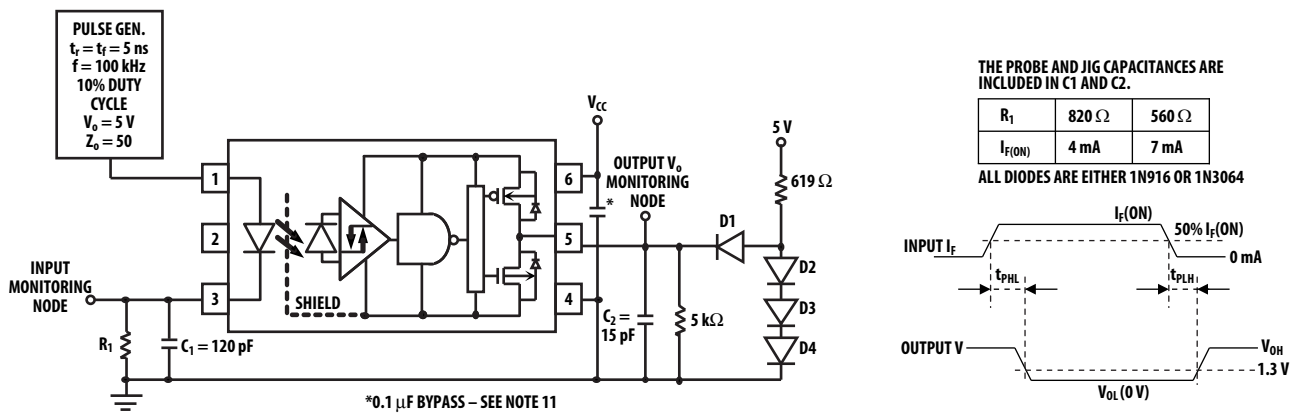

Figure 5. Circuit for  $t_{PLH}$ ,  $t_{PHL}$ ,  $t_r$ ,  $t_f$
- The  $t_{PLH}$  propagation delay is measured from the 50% point on the trailing edge of the input pulse to the  $1.3\text{V}$  point on the leading edge of the output pulse. The  $t_{PHL}$  propagation delay is measured from the 50% point on the leading edge of the input pulse to the  $1.3\text{V}$  point on the trailing edge of the output pulse. Peaking capacitor,  $C_1 = 120\text{pF}$  must be connected as shown in Figure 5.